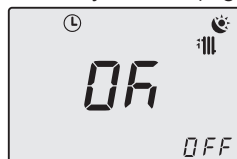

Fig. 2.21
Press key 18 briefly to save (Fig. 2.21).